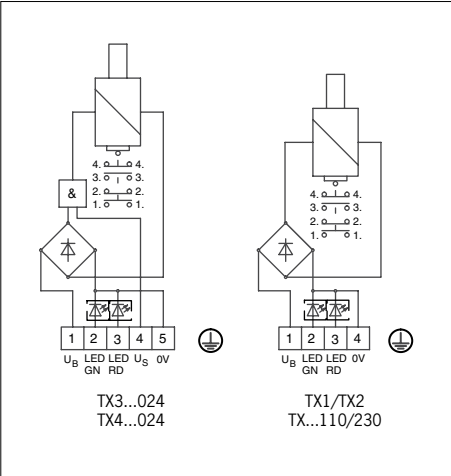

Figure 5: Circuit diagrams
- ▶ For pin assignment see Figure 5.